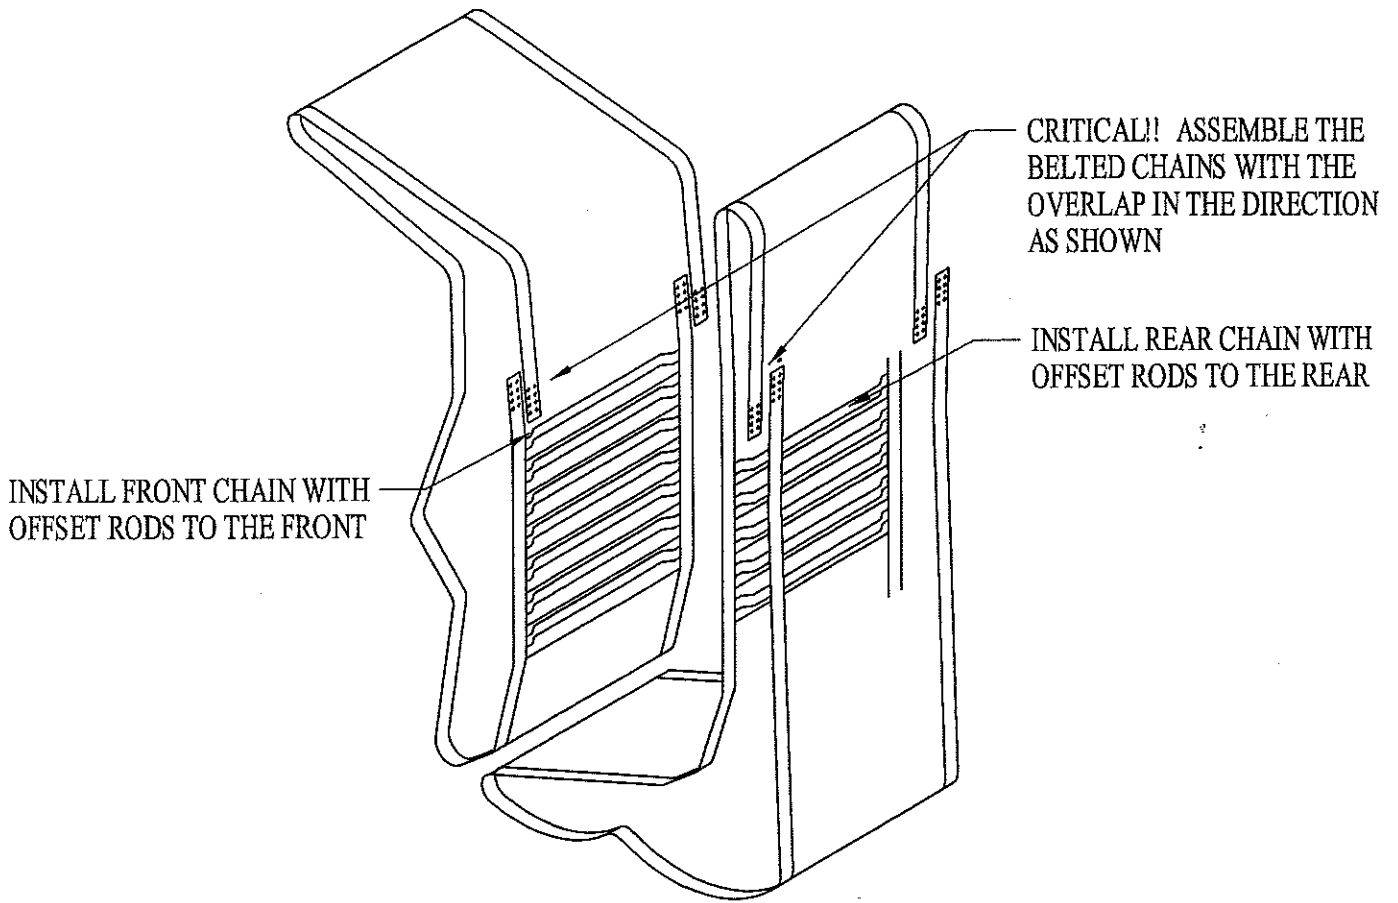

FIGURE 4
Step 7: Wrap the lower end of the rear belted chain around the rollers as shown in Figure #5, pg. 14, or the decal on the side elevator panel. Attach the ends of the belts along with the chain rods and backing clamps furnished, **being sure that the overlap connection is in the direction illustrated** in Figure 4. Tighten the lock nuts on the bolts until they are snug and secure. Be sure lock nuts are used with the bolts (**Do Not Use Elastic Stop Nuts!**).